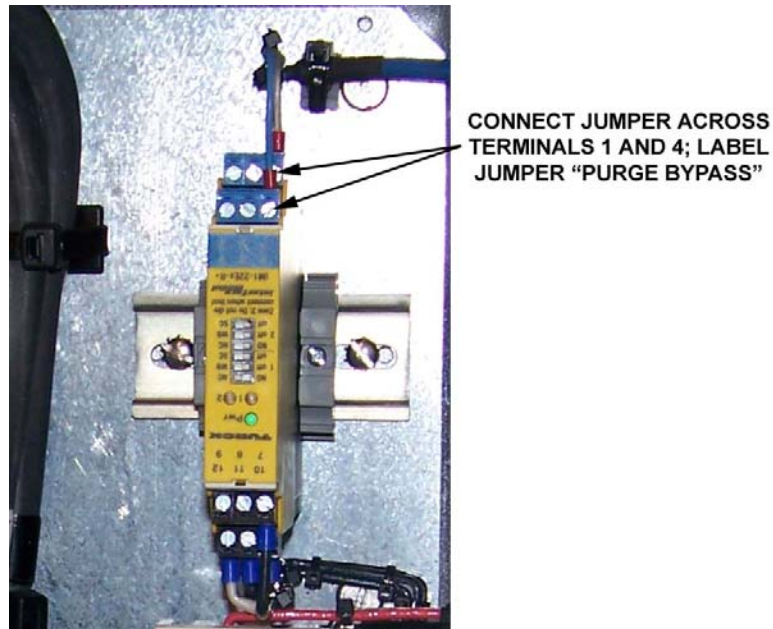

Figure 4-1 Purge System Bypass
3. Locate intrinsic barrier at upper right side of electrical panel, and install a jumper across terminals 1 and 4 to disable the purge system (Figure 4-1).